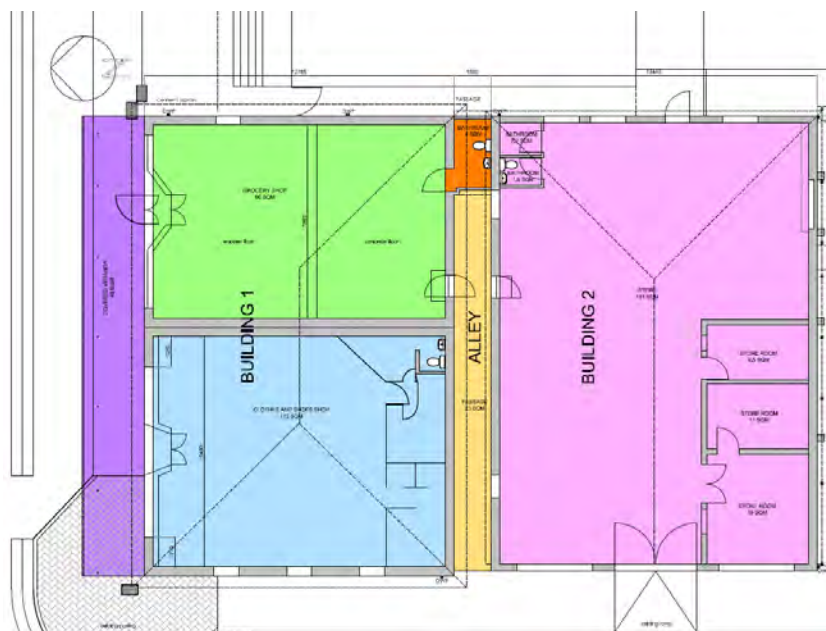

Figure 2
Building 1 has a South African Farm Style, we assumed it was originally built around 1950. The building consists of two spaces. It originally functioned as a clothing store, specifically a shoe shop. Indicated in green on Figure 2: A grocery store and miscellanies shop can be seen. Indicated in blue on Figure 2 below: Gainde Fatma House, clothing and shoe store. From historical accounts from within the local community, the building was mainly utilized to accommodate a variety of shops over the years.
The buildings were built in a rectangular-shape. Although none of the original drawings were found, we believe that small alterations have been done since the buildings were built. An addition of a bathroom between the building 1 & 2 was done (indicated in orange on the figure 2 to the left), new interior walls, new bathrooms and new exterior windows were added to the original building layout.
- Original veranda (indicated in purple on the figure 2 to the left)
- Existing Alley (indicated in yellow on the figure 2 to the left)